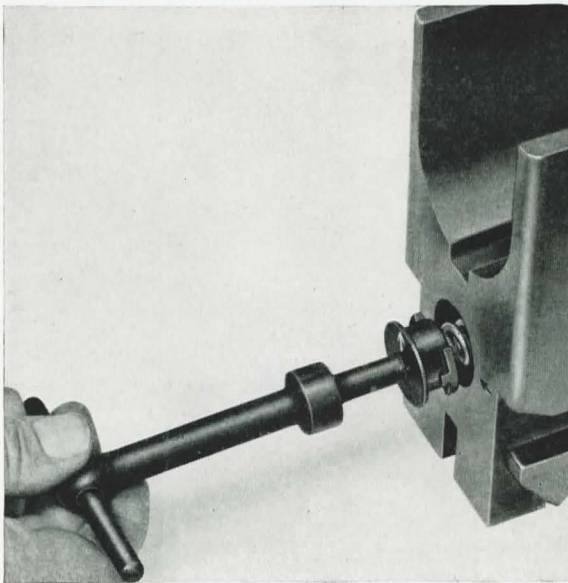

Figure 77
- (1) Insert the wrench (298869-6) in the slot in the firing spring cover, **Figure 77**, push the cover in against spring tension, and give it a quarter turn in either direction to remove.
- (2) Remove the firing spring and the firing pin.